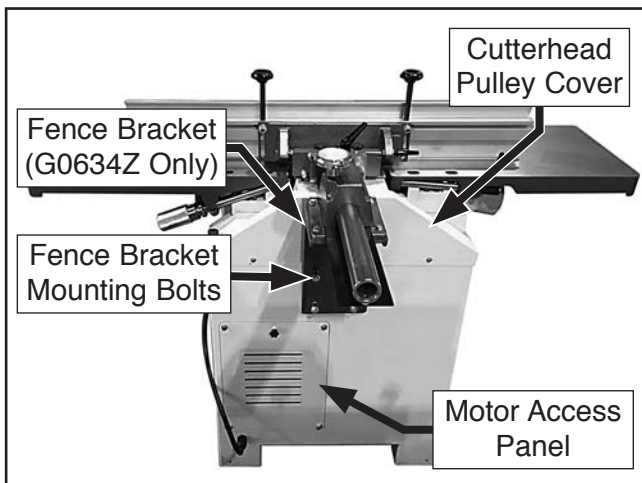

Figure 61. Location of fence bracket, cutterhead pulley cover, and motor access panel (G0634Z shown).
2. **G0634Z only:** Remove four bolts that secure fence bracket to machine body, then remove fence and fence bracket assembly (see **Figure 61**).
3. Remove cutterhead pulley cover and motor access panel (see **Figures 61–62**).